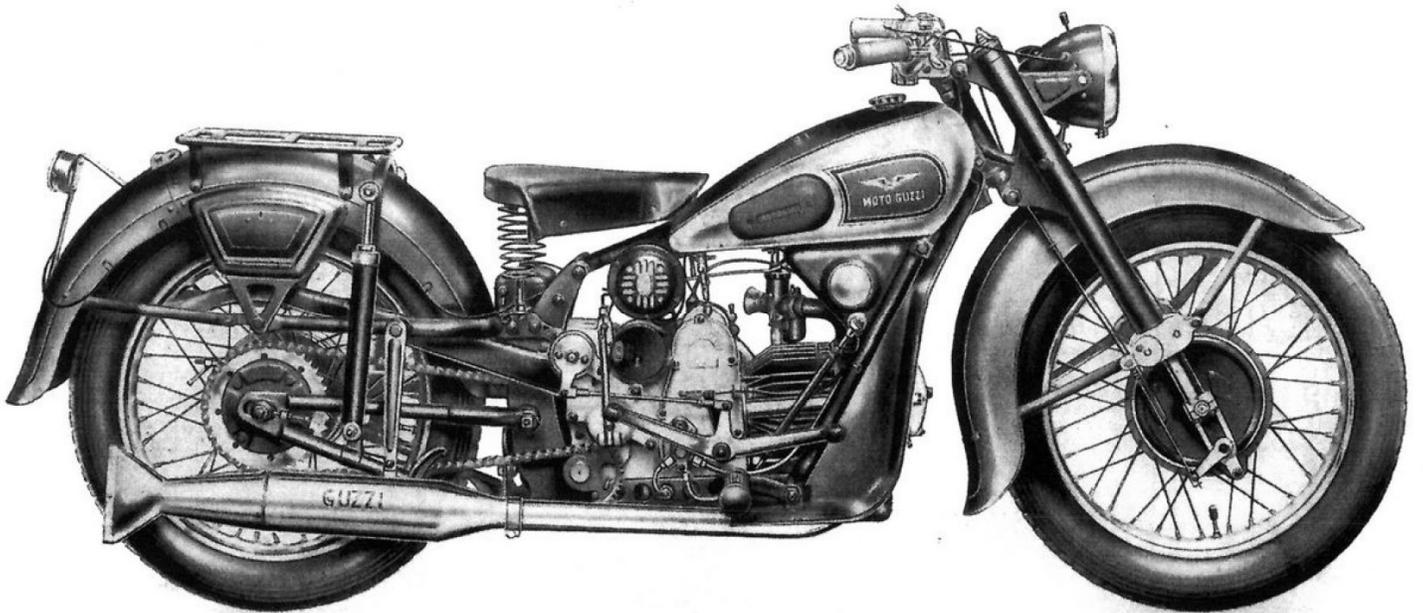

Fig. 2 - Motorcycle GTV – timing side
- Figure 2- G.T.V. Motorcycle (timing cover side).